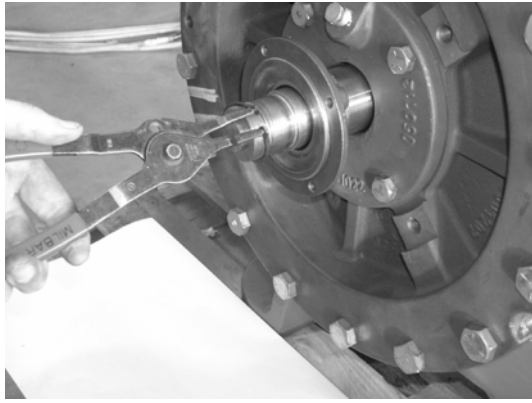

Figure 49: Installing the Bearing Backup Ring (2" Frame Pumps Only)
2. For 2"-frame pumps only, install a bearing backup ring onto the shaft. (See Figure 49.) (See Figure 22 for a listing of pump sizes with 2" frames.)